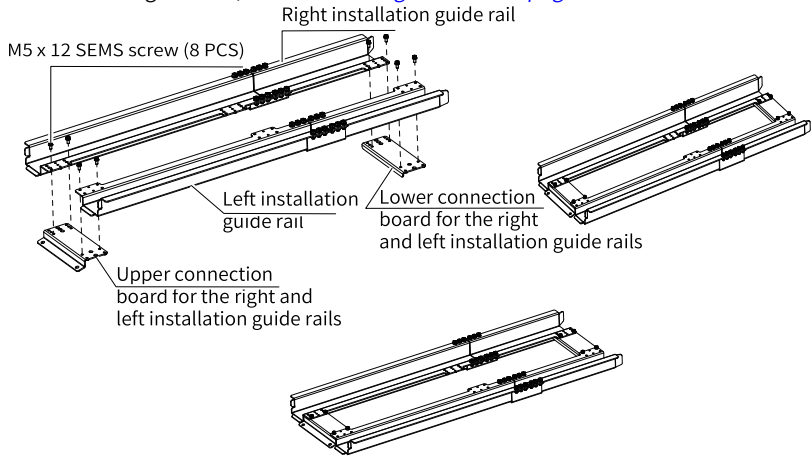

Figure 5-8 Assembling guide rails
a. Assemble the guide rail, as shown in "Figure 5-8" on page 69.